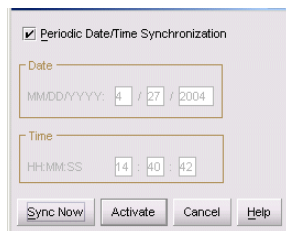

Figure 44 Configure Date and Time dialog box (periodic synchronization options)
1. At the Configure Date and Time dialog box, click the **Periodic Date/Time Synchronization** check box. The **Date** and **Time** boxes are grayed-out and not selectable, as shown in Figure 44.